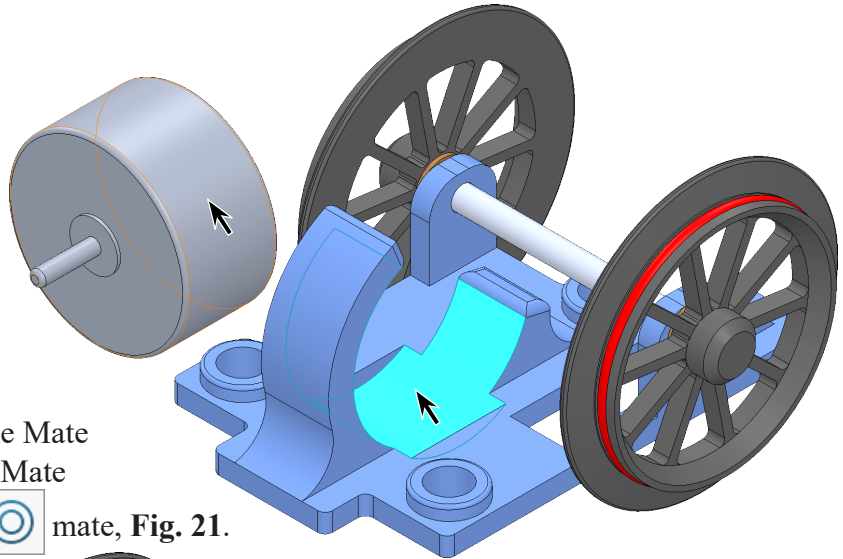

Fig. 20
Step 2. Click cylindrical face of motor mount in Bracket and a cylindrical face of Motor, Fig. 20.